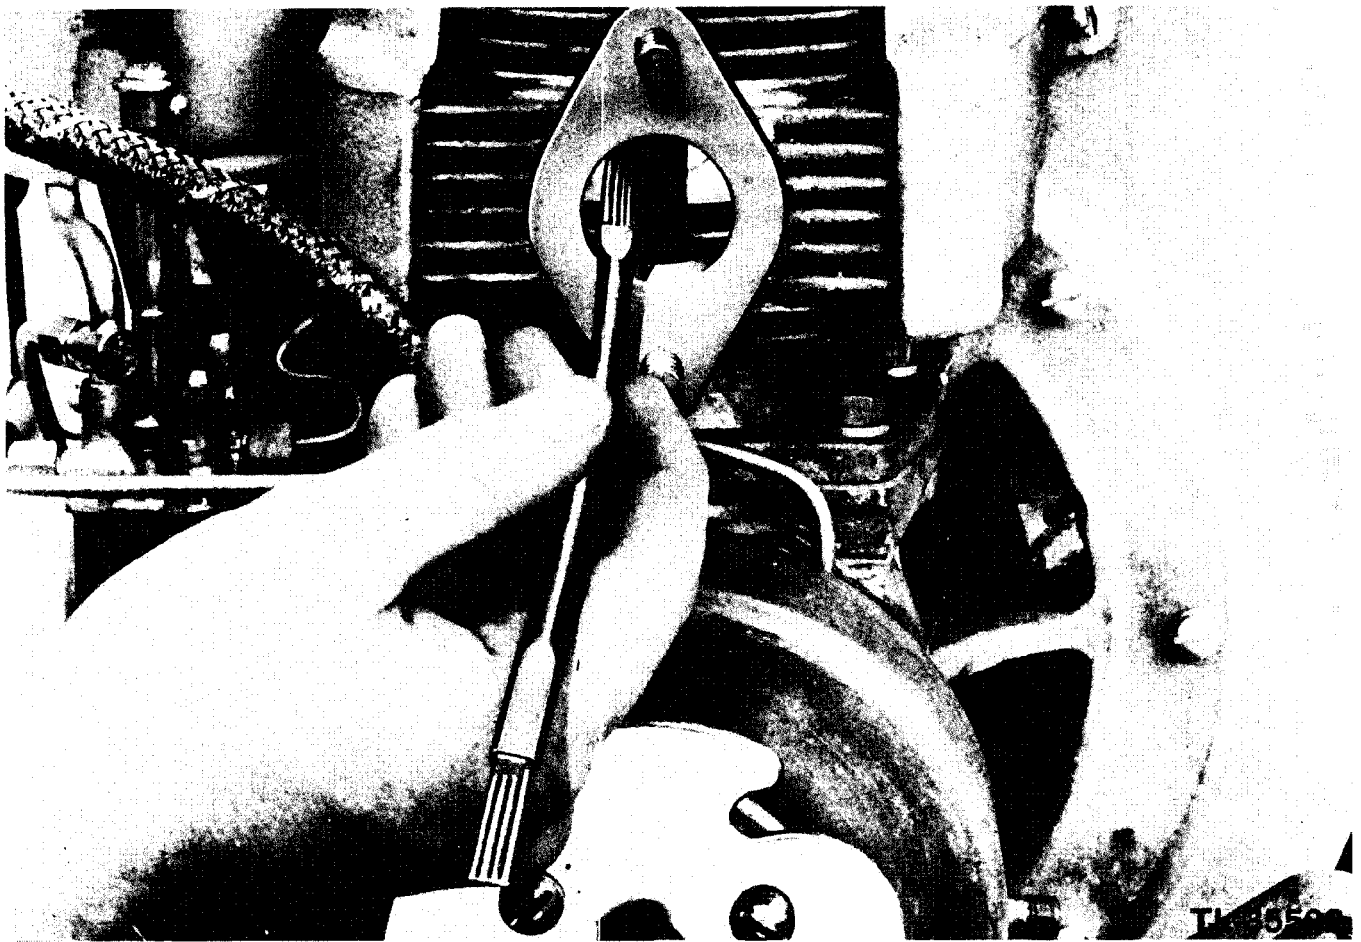

Figure 9. Cleaning exhaust ports
(b) With the spark plug and adapter removed, turn the piston to bottom dead-center. Scrape all carbon and lead deposits from the exhaust ports (fig. 9) through the exhaust outlet with the carbon scraper (ref. 196). Be particularly careful to remove all carbon from top of the exhaust ports. Spin the engine several times to remove any loose particles from the cylinder.